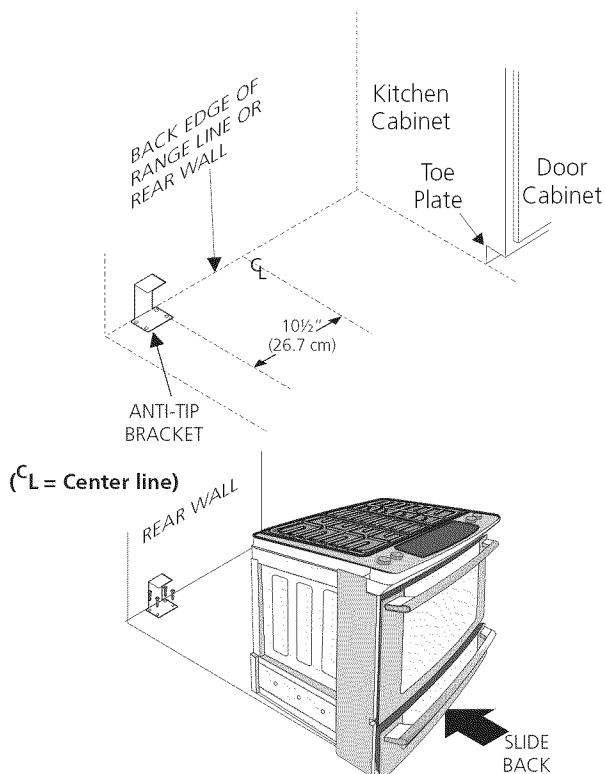

Figure 14
1. Draw a center line (CL) on the floor where the range should be installed. Also draw a line on the floor at the range back position if there is no wall.
2. Unfold paper template and place it flat on the floor with the right rear corner positioned exactly on the intersection of the center and back lines you just drew before. (Use the diagram below to locate brackets if template is not available. (Figure 14))